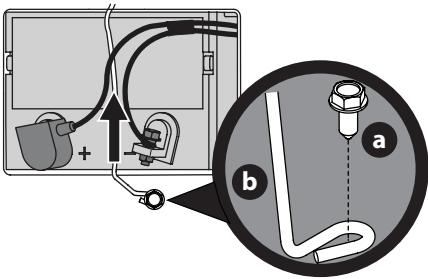

Fig. 14
3. Remove the hex washer screw (a) securing the battery hold-down rod (b) to the frame. Then flip the battery hold-down rod (b) up to free the battery (Fig. 14).